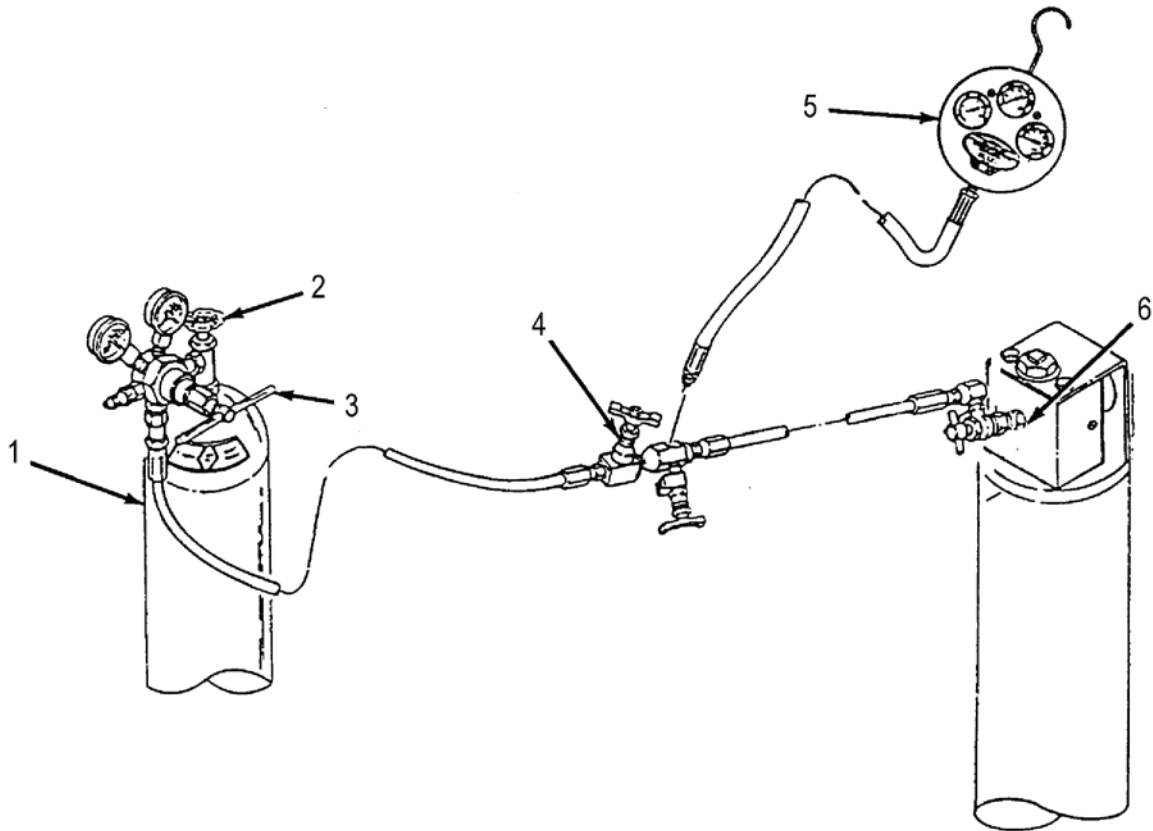

Figure 51. Main Accumulator Charging
- Adjust regulator valve (Figure 51, item 3) on nitrogen tank (Figure 51, item 1) to 1,750-1,850 psi (12,066-12,756 kPa).
- Open shutoff valve (Figure 51, item 4). Read pressure measuring device (Figure 51, item 5). When pressure reaches 1,750-1,850 psi (12,066-12,756 kPa), close shutoff valve (Figure 51, item 4), nitrogen tank valve (Figure 51, item 2), and accumulator charge valve (Figure 51, item 6).
- Wait 15 minutes and open charge valve (Figure 51, item 6). Read pressure measuring device (Figure 51, item 5) to determine if accumulator can retain the charge.